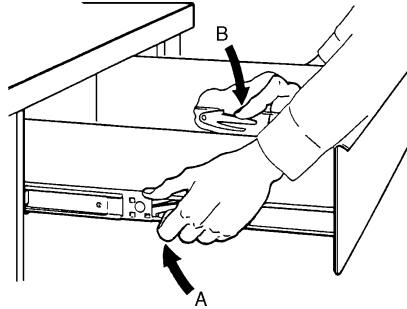

Figure 4. Drawer Removal
4. To remove a drawer (Figure 4.), pull the drawer out till it stops. Notice the locking levers located inside the track that is attached to the drawer. Lift the left lever (A) while pressing down on the right lever (B). Pull drawer clear of the slides.